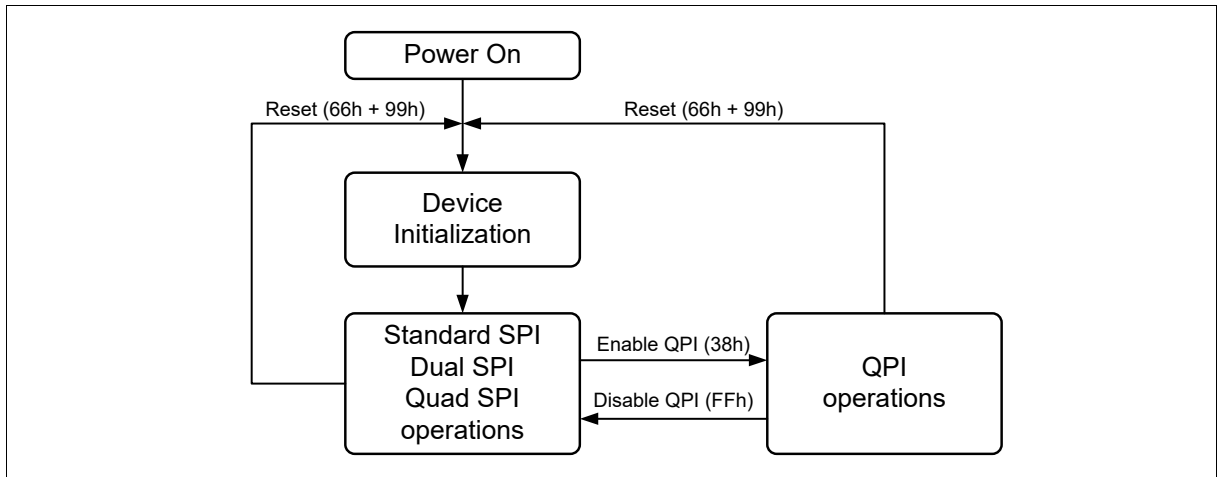

Figure 2 FM25W08 Serial Flash Memory Operation Diagram
The FM25W08 supports Quad Peripheral Interface (QPI) operations only when the device is switched from Standard/Dual/Quad SPI mode to QPI mode using the “Enable QPI (38h)” instruction. The typical SPI protocol requires that the byte-long instruction code being shifted into the device only via DI pin in eight serial clocks. The QPI mode utilizes all four DQ pins to input the instruction code, thus only two serial clocks are required. This can significantly reduce the SPI instruction overhead and improve system performance in an XIP environment. Standard/Dual/Quad SPI mode and QPI mode are exclusive. Only one mode can be active at any given time. “Enable QPI (38h)” and “Disable QPI (FFh)” instructions are used to switch between these two modes. Upon power-up or after a software reset using “Reset (99h)” instruction, the default state of the device is Standard/Dual/Quad SPI mode. To enable QPI mode, the non-volatile Quad Enable bit (QE) in Status Register-2 is required to be set. When using QPI instructions, the DI and DO pins become bidirectional DQ₀ and DQ₁, and the WP# and HOLD# pins become DQ₂ and DQ₃ respectively. See Figure 2 for the device operation modes.